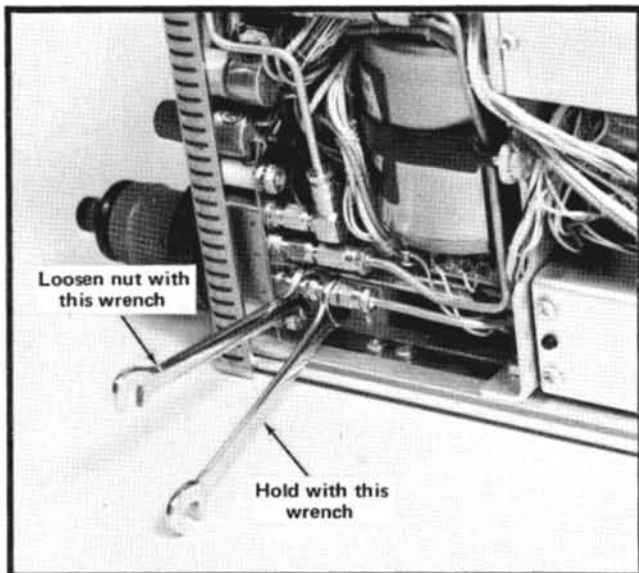

Fig. 6-11. Proper method to loosen or tighten plugs for the semi-rigid cable.
The nuts that tighten the connectors for the semi-rigid cable plugs should be tightened so they are just snug or slightly more than finger tight. If a slight torque does not loosen the nut, a second wrench should be used to hold the rigid portion of the connector (see Fig. 6-11).
*Do not use pliers to loosen or tighten these connectors. The connectors are torqued so they are slightly tighter than finger tight. If the nut on the plug does not loosen readily, use a second wrench as illustrated in Fig. 6-11 to hold the rigid portion of the connector so the cable does not bend or the connector at the jack does not twist.*